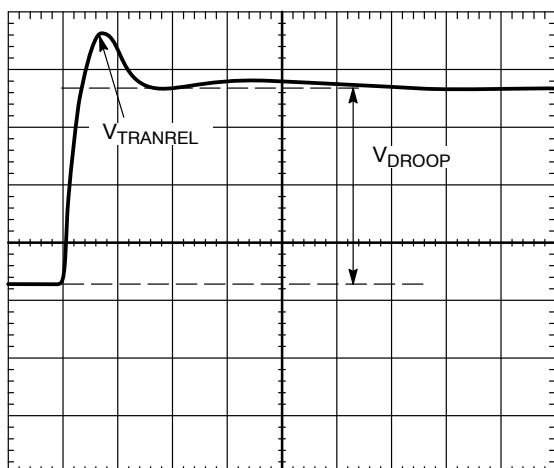

**Figure 14. Transient Setting Waveform**
18. With the dynamic load still set at the maximum step size, expand the scope time scale to either 2  $\mu\text{s}/\text{div}$  or 5  $\mu\text{s}/\text{div}$ . The waveform can have two overshoots and one minor undershoot (see Figure 14). Here,  $V_{DROOP}$  is the final desired value.